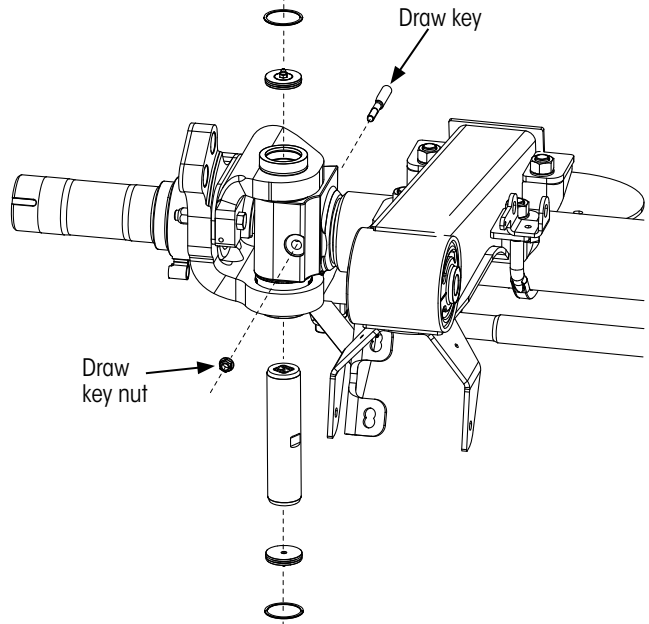

Figure 20: Kingpin before March 2024
1. **Remove** top and bottom retaining rings (Figure 20 and, 20A) securing the kingpin caps in position.
8. Using wrench or socket¹, **remove** the draw key nut (Figure 20 and, 20A on page 14).